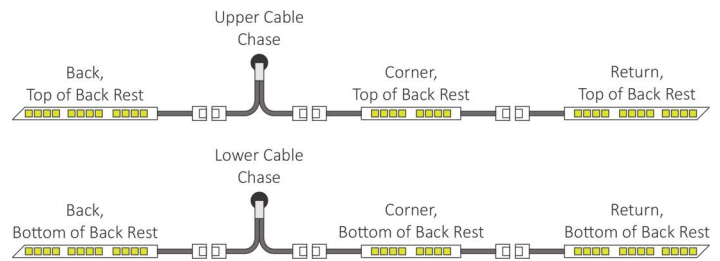

Figure 14. Backrest Wiring Diagram
46. Attach the rear backrest onto the attachment bracket located on the upper back wall (A).
47. Attach the right backrest onto the attachment bracket located on the upper right wall (B).
48. Slide the small corner backrest (C) down onto the support bracket located on the lower backside of the rear and right backrests.
49. Connect the lighting cables for all three portions of the backrests to their corresponding mating cables. See Figure 14.